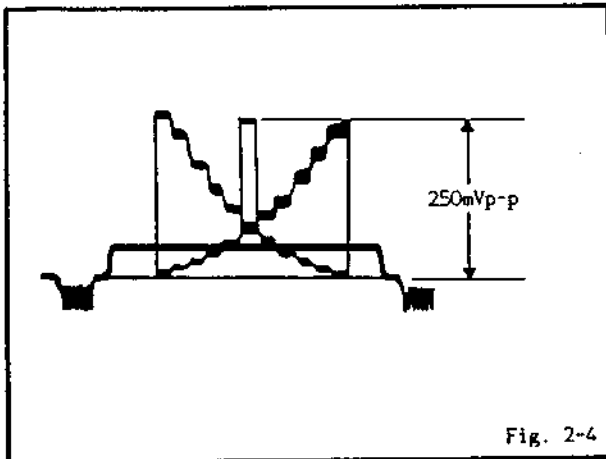

Fig. 2-4
4. Adjust VR8001 so that the waveform measures  $250 \pm 10 \text{mVp-p}$ . (refer to Fig. 2-4)